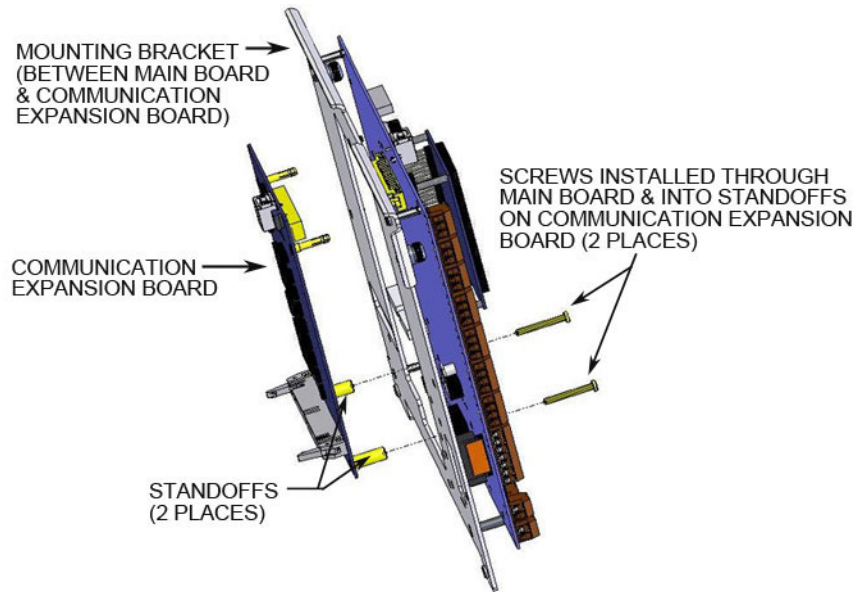

Figure 5-5. Installing the communication expansion board
5. Refer to Figures 5-5 and 5-6 for the following.